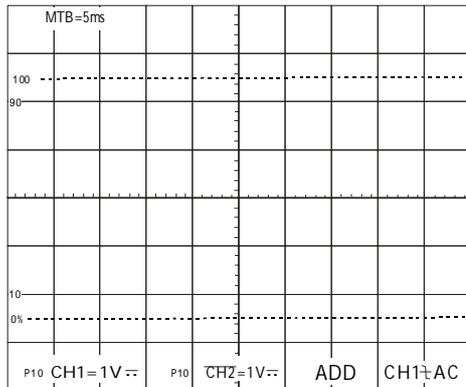

Figure 5-4 Display 2
- 9 . The figure 5-4 below shows a satisfactory display. The display will show a flat trace located on the center Graticule that confirms the channel balance and ADD offset function.